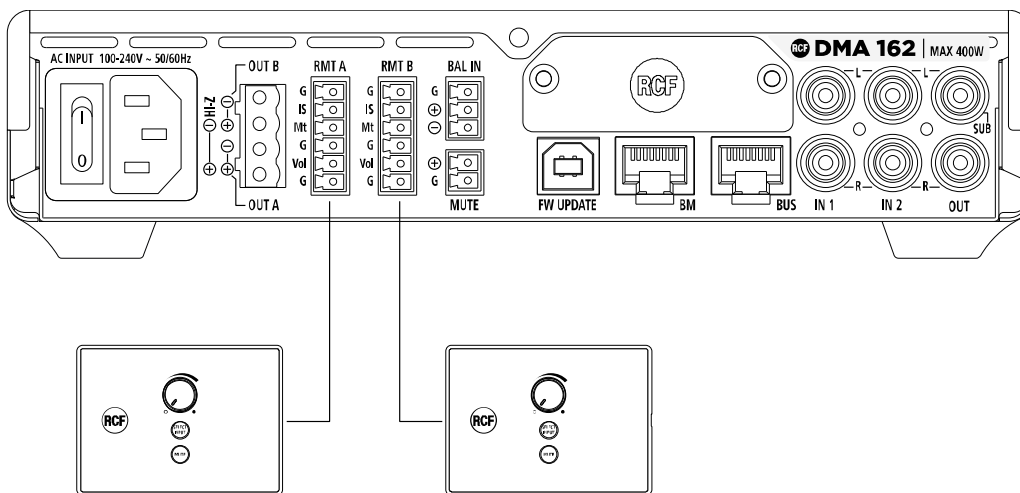

Figure 1
**i** Wiring schemes shown in Figure 1 and Figure 2 represent the configuration to implement the applications described in the following tables.
APPLICATIONS	Single unit – 2 zones (Figure 1)